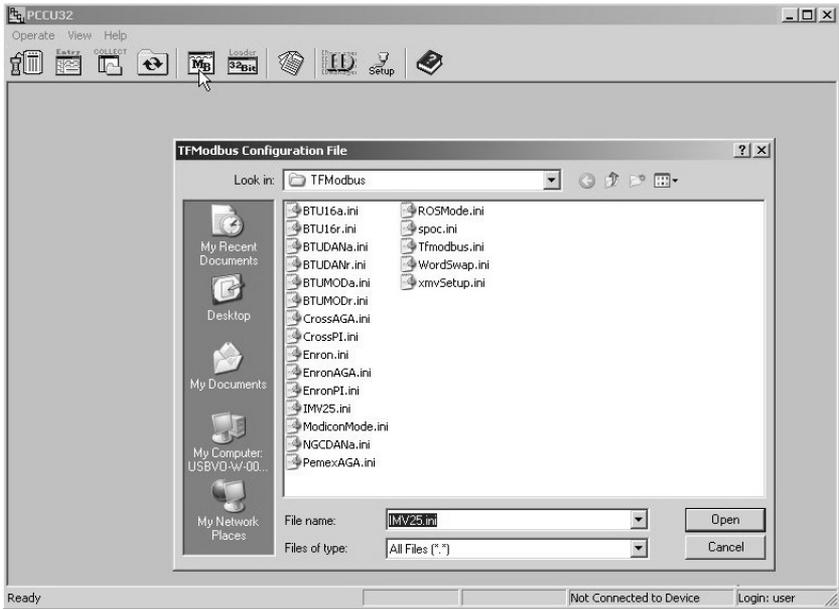

Figure 7 Activate TFModbus Tool
- 5A** Open PCCU32. Click the TFMobus toolbar icon (Figure 7). This will bring up the various Modbus drivers. If the user has copied IMV25.ini into the TFMobus sub-folder, it should be included in the list of .ini files.